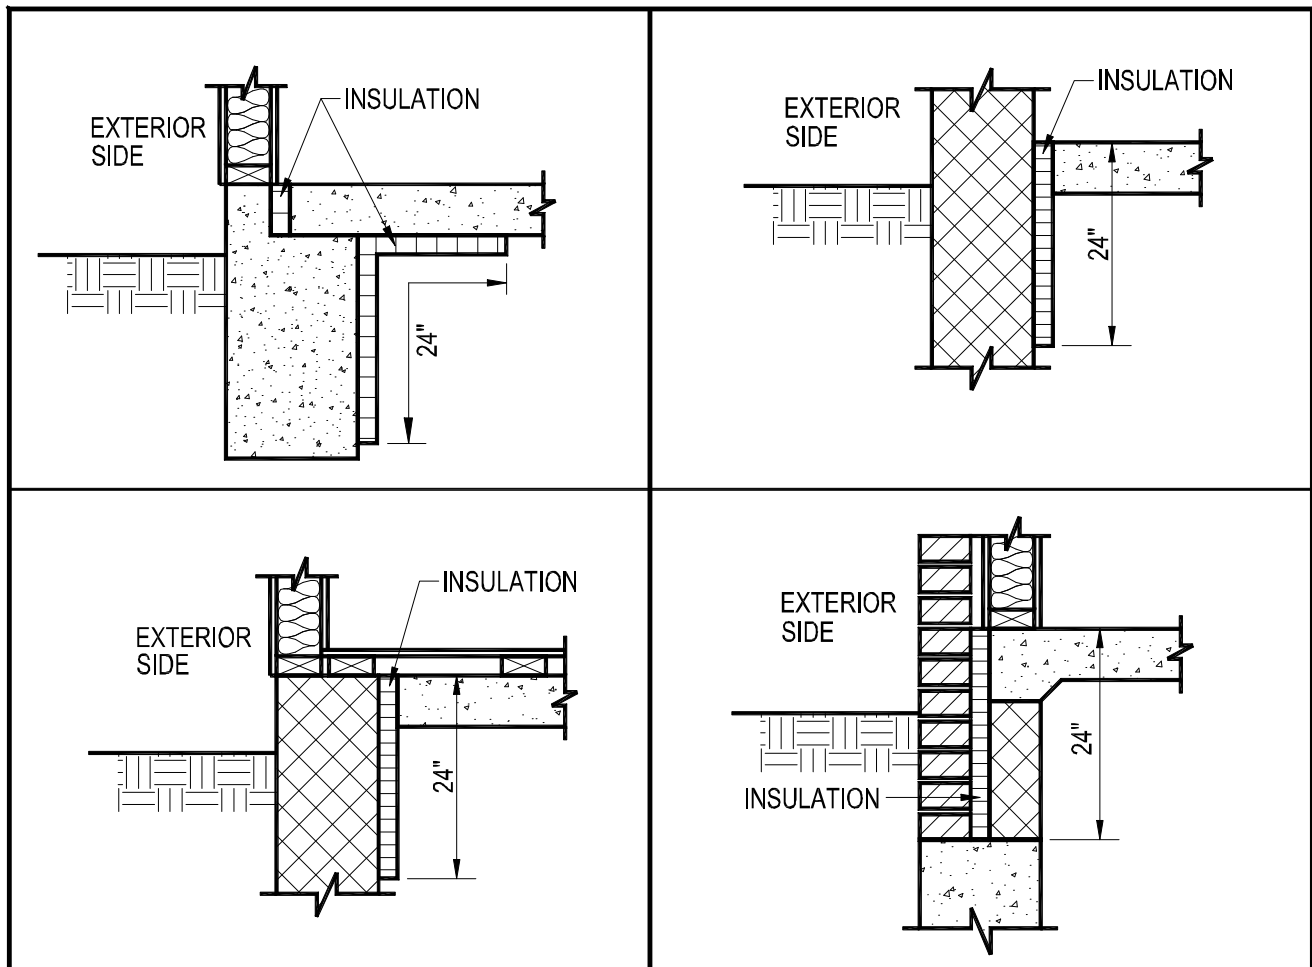

FIGURE 2: SLAB INSULATION
- ! Insulation for slab-on-grade is R-4 for unheated slabs and R-6 for heated slabs. See Figure 2.